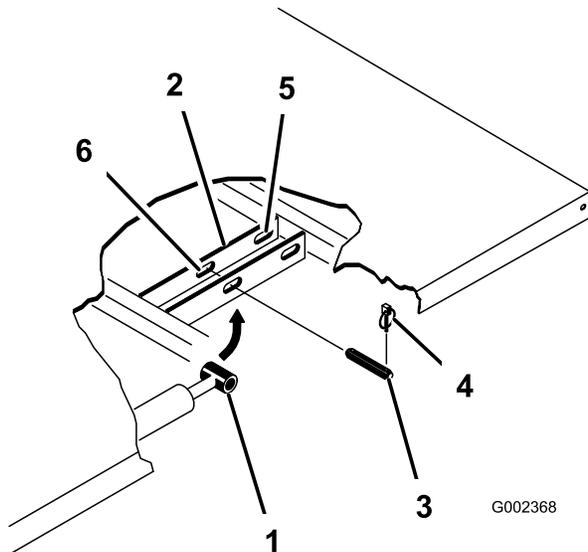

Figure 25
2. Remove the lynch pins from the outer ends of the cylinder rod clevis pins (Figure 25).